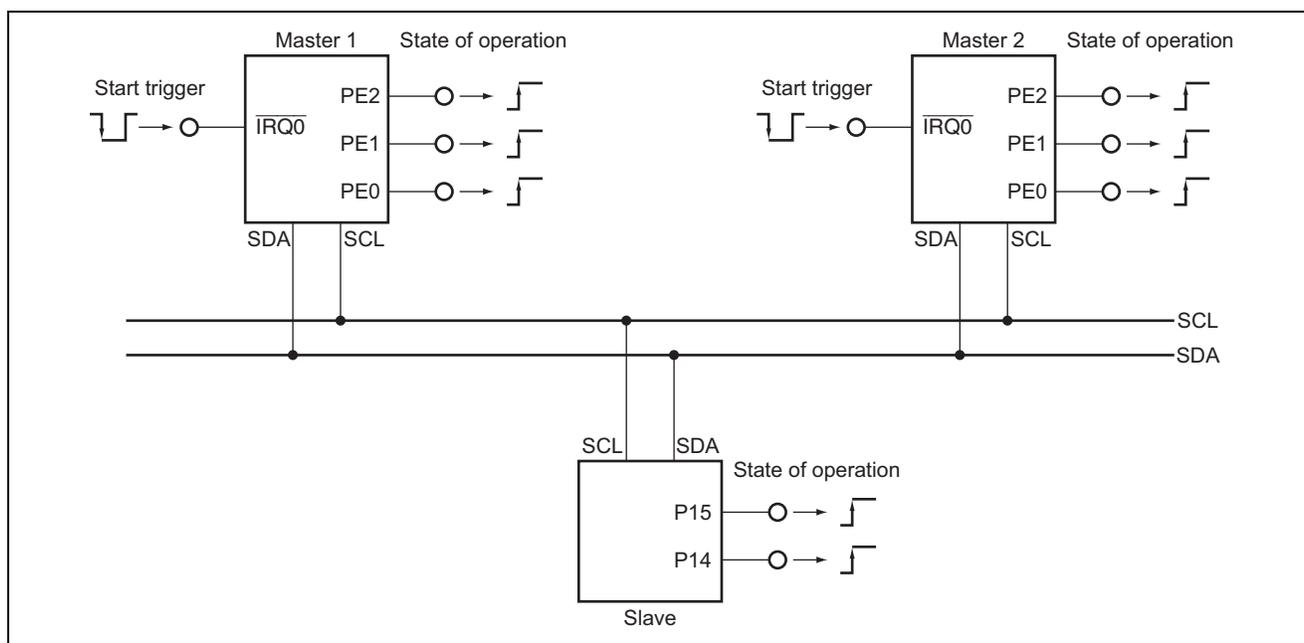

Figure 1 Connections for I²C Bus Interface Multi-Master Mode Communication
- Figure 1 shows the connections for communications using the I²C bus interface in multi-master mode. The slave addresses and settings for the SAR_0 registers of the individual devices are listed in table 1.